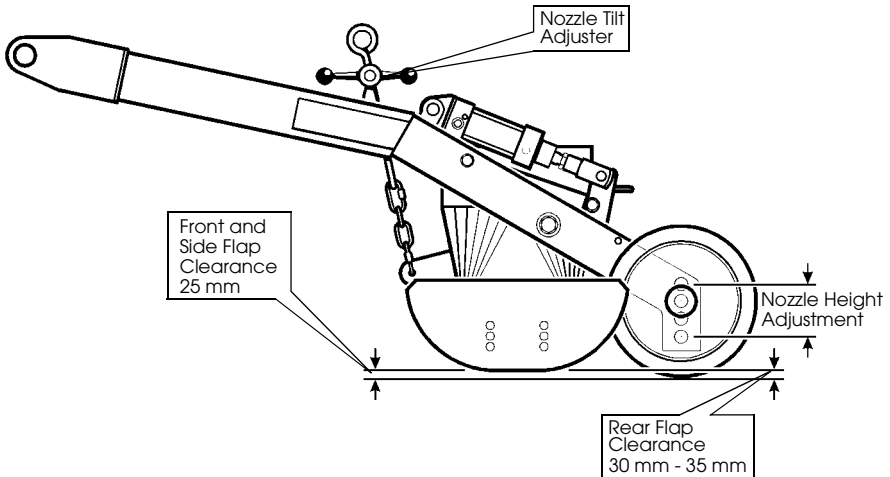

Fig. 2 - Clearances for Suction Nozzle Flaps
8. Check the suction box ground-clearance and adjust as necessary. **(Note: It is important that the nozzle height is as stated in Fig. 2, otherwise suction power will be lost).**